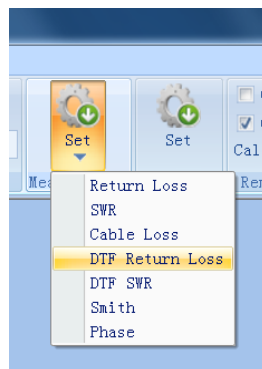

Figure 7-7 Measurement Format Set
- In the **【Meas Format】** group, click **【Set】** to pop up the measuring format menu, as shown in Figure 7-7. After that, click the format menu you need to finish setting.